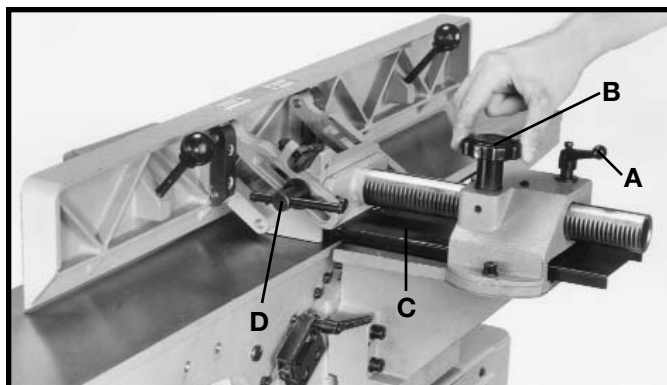
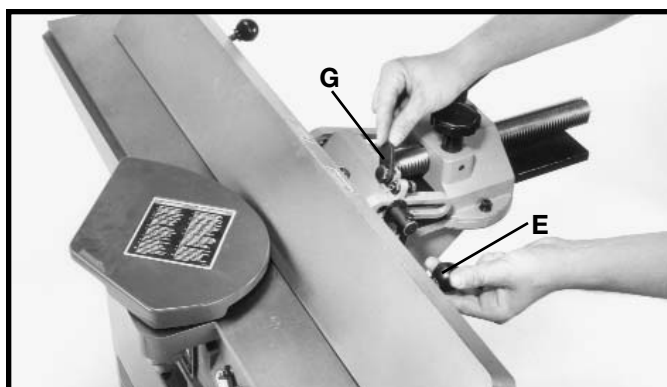

Fig. 48
Fig. 49
1. To move the fence across the table, loosen lock handle (A) Fig. 48, and turn knob (B) until desired fence location is reached. Then tighten lock handle (A). As the fence is moved across the table, the rear cutterhead guard (C) covers and guards the cutterhead in back of the fence.
2. To tilt the fence in or out, loosen lock handle (D) Fig. 48. While holding fence tilting handle (E) Fig. 49, rotate 90° flip stop (G) and tilt the fence to the desired angle, in or out, and tighten lock handle (D) Fig. 48. **IMPORTANT:** When cutting bevels and the angle is small, there is little difference whether the fence is tilted in or out; however, at angles approaching 45 degrees it may become difficult to hold the work securely against the fence when the fence is tilted out. In these cases we suggest that the fence be tilted toward the table, as shown in Fig. 50. The fence will form a V-shape with the tables and the work is easily pressed into the pocket while passing across the knives.